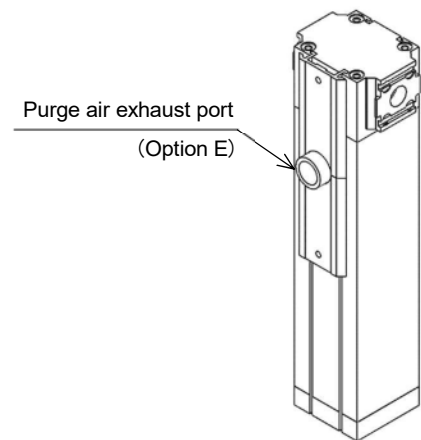

Fig.5
- 6) In case of the option E of NSU-4S,4L series, piping of exhaust air should use the hose or piping material of I.D. 8.9 mm or more, and give length as less than 2 m. (Refer to Fig.5)